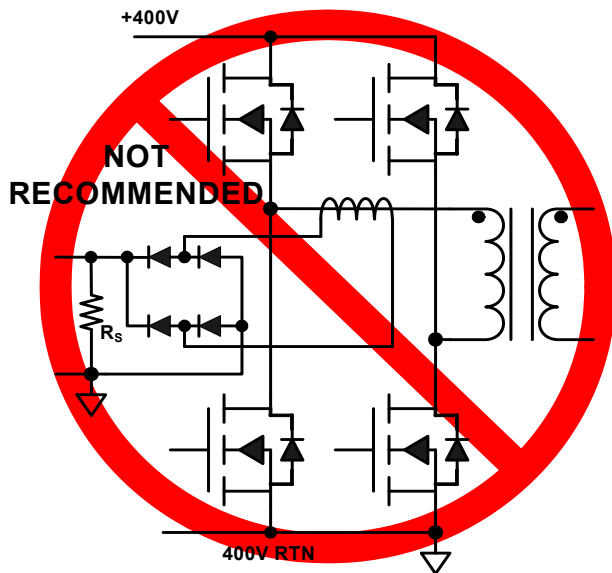
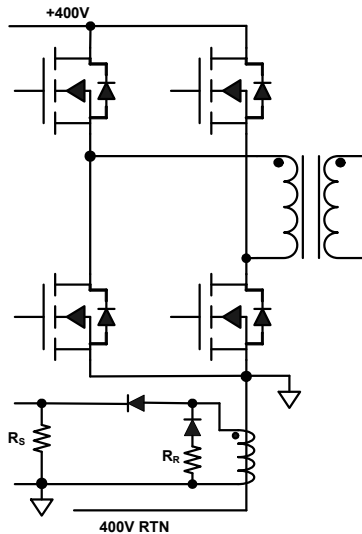
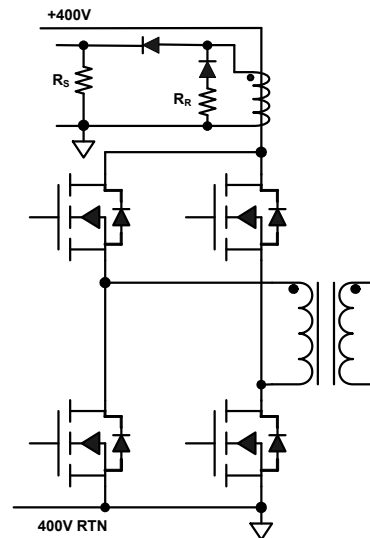

FIGURE 15. PRIMARY SIDE CURRENT SENSING CIRCUIT USING ONE CT
FIGURE 19. CURRENT SENSING TRANSFORMER IN THE COMMON SOURCE LEAD
FIGURE 20. CURRENT SENSING TRANSFORMER IN THE COMMON DRAIN LEAD
Current flowing from the secondary to the primary can result in an unanticipated malfunction of the current sensing transformer circuit if reverse SR currents are not considered. Figure 15 shows a commonly used primary side current sensing circuit using one current sensing transformer (CT).
2. Figure 19 shows a different current sensing implementation that also solves the problem shown in Figure 15. In this example, both drain currents of the bottom FETs are sensed by only one CT. There are some limitations that must be considered, however. The minimum time available to reset the core is the duration of the selected dead time between the two FETs on the same side of the bridge. To accommodate the resetting of the CT, this dead time can be made longer, but the consequences of reducing the maximum duty cycle available for output voltage regulation must be considered.
Notice in Figure 19 that the 400V RTN is slightly more negative than signal ground. This configuration is recommended for applications that directly drive the bottom FETs with MOSFET drivers. If the 400V RTN and the MOSFET drivers are grounded, regenerative feedback will be present on the output of the MOSFET drivers because of the CT windings in the gate drive loop.
3. A variation on the current sense circuit in Figure 19 is to place the current sensing transformer in the common drain lead of the two high-side FETs, as shown in Figure 20.
The circuits shown in Figures 19 and 20 give exactly the same performance, but the problem associated with the gate drives (as explained in Figure 19) is avoided. The disadvantage of placing the CT at this location is that the CT must be designed with 400VDC operational insulation.